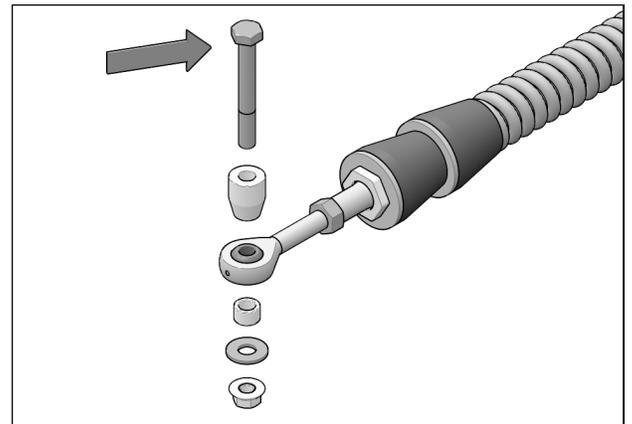

Fig. 3
- Remove bolt, washers and spacer bushings from rear stabilizing rod end. See Fig. 3